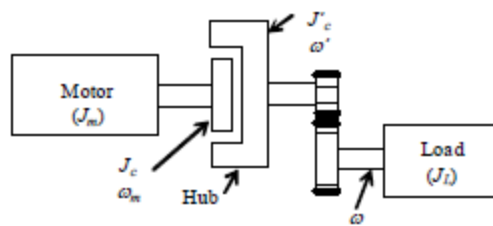

Figure 4
5. Consider the drive of figure 4, where the electromagnetic coupling develops a torque which is proportional to the relative speed between the driving part (armature) and the driven part (hub) of the coupling.